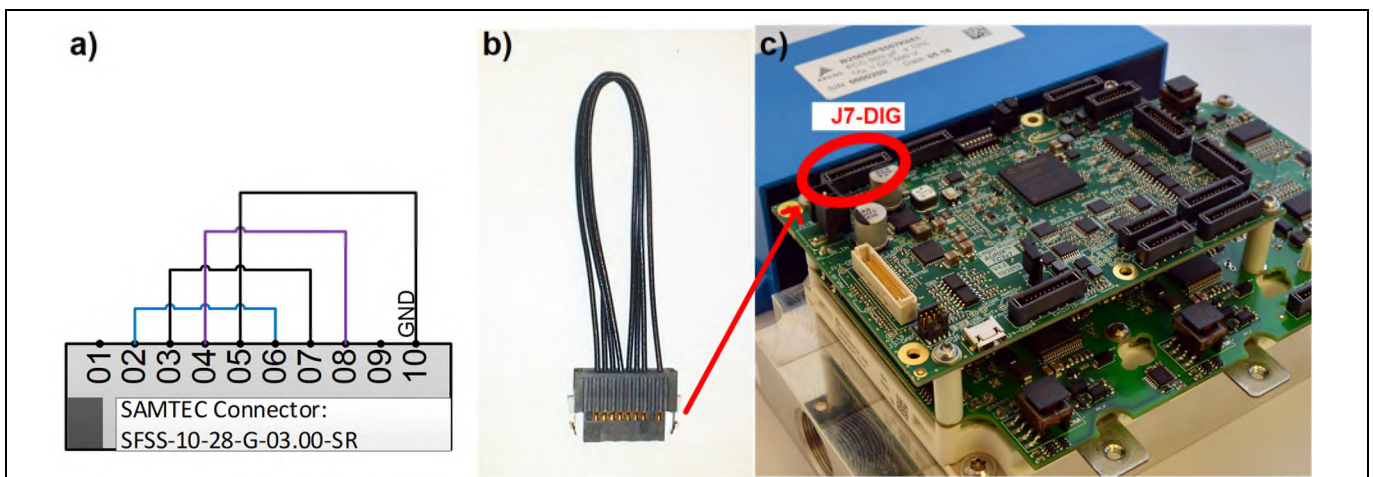

Figure 5 Required DEMO-ENABLE-PLUG. Circuit (a). Example (b). Plug has to be connected into the logic board connector J7-DIG (c).
- 3) Place DEMO-ENABLE-PLUG (see Figure 5).